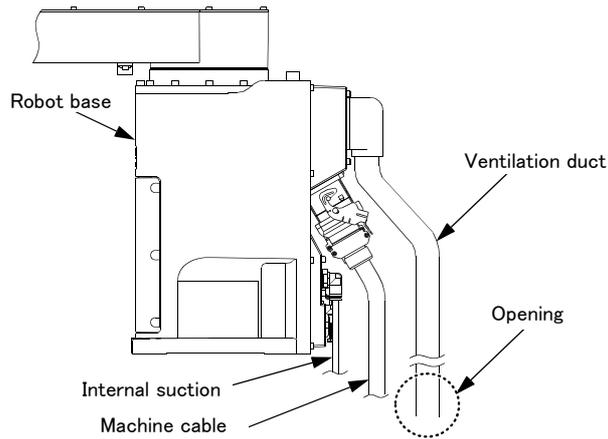

Fig.2-15 : Installation of Ventilation Duct
- 3) The ventilation duct is attached to the robot arm rear (refer to Fig. 2-15). As the Z axis moves up and down the volume of the bellows varies, and air is sucked in and released out of the robot's ventilation duct opening. Be sure to locate the ventilation duct's opening in a position that will not affect the robot's cleanliness.